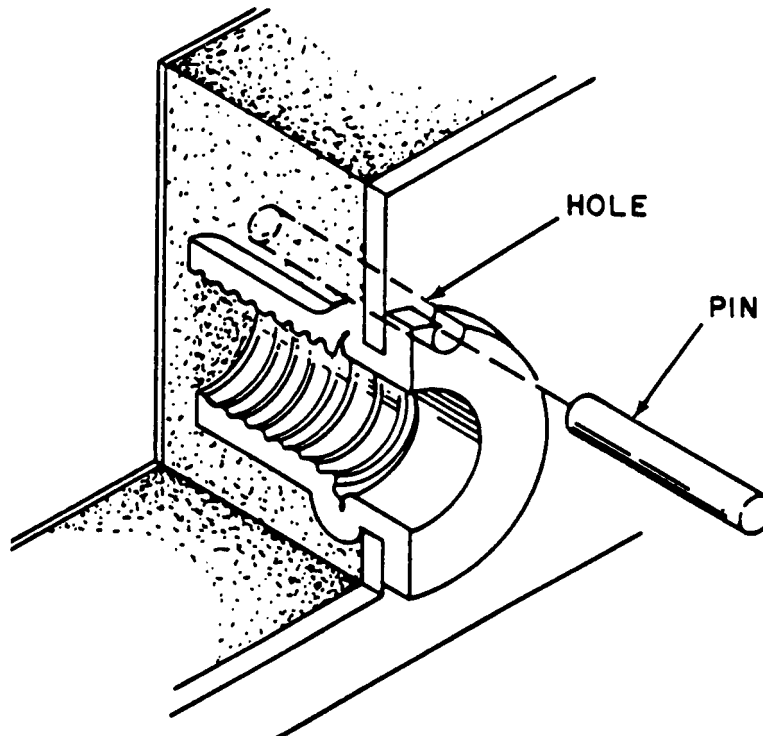

Figure 3-11. Repair of Turning Rivnut
- (3) *Repair.* (Figure 3-11) When excessive torque is applied on screws attached on rivnuts, it may cause a rivnut to turn (spin). Table 3-4 provide the maximum torque requirement for hardware to prevent rivnut turning. To correct a turning rivnut, proceed as follows:
- (a) Drill a .062 (+.003, -.001) diameter hole by 1.00 inch long on the stem of the turning rivnut as shown in Figure 3-11.